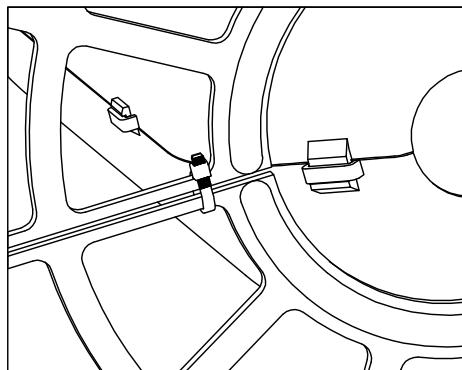

Figure 1 - Cable Ties Connecting Roller
3. Verify the size (OD) of the conductor that the line guard will be installed on. The line guard rollers are fabricated with a 1" OD hole and two cutouts, one for 2" OD and another for 3" OD. The first groove on each roller represents 2", and the second groove represents 3". The cutouts can be easily removed with a knife.
6. While assembling the first and last rollers the wheels must be installed. Spread apart a wheel and place it on the end of the roller that faces the "L" bracket. Tightly fasten one cable tie at the base of the wheel (See Figure 1) to secure it to the roller.